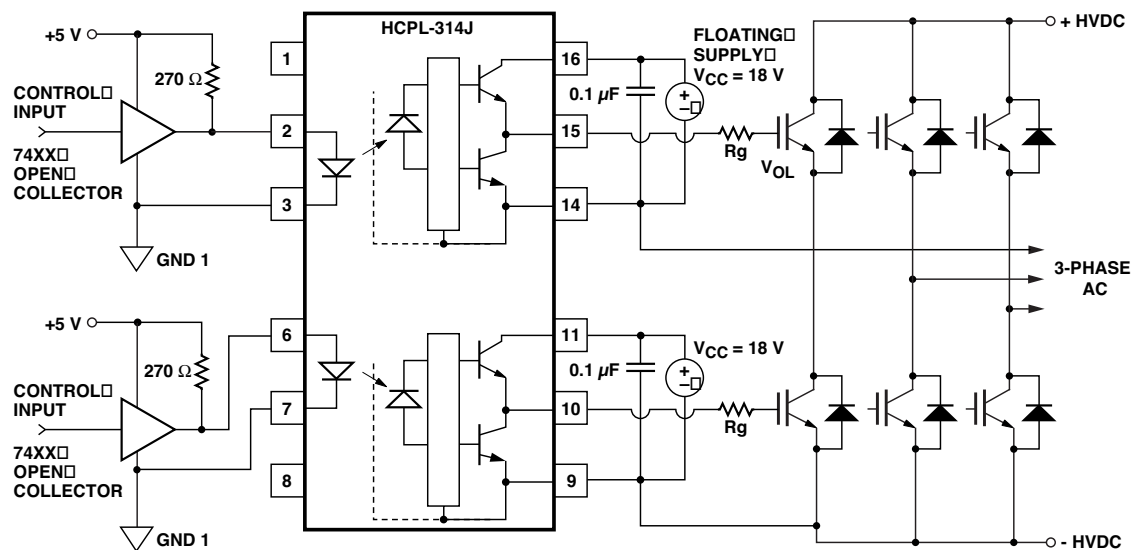
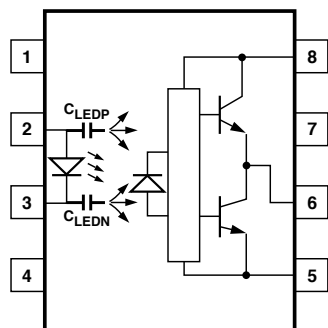
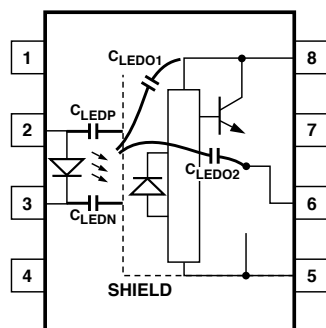
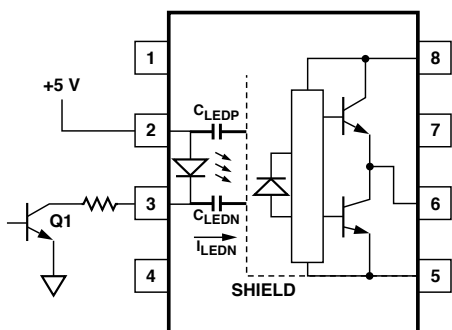

Figure 19. Recommended LED Drive and Application Circuit for HCPL-314J.
Figure 21. Optocoupler Input to Output Capacitance Model for Unshielded Optocouplers.
Figure 22. Optocoupler Input to Output Capacitance Model for Shielded Optocouplers.
Figure 24. Not Recommended Open Collector Drive Circuit.
To keep the IGBT firmly off, the HCPL-314J has a very low maximum V_{OL} specification of 1.0 V. Minimizing R_g and the lead inductance from the HCPL-314J to the IGBT gate and emitter (possibly by mounting the HCPL-314J on a small PC board directly above the IGBT) can eliminate the need for negative IGBT gate drive in many applications as shown in Figure 19. Care should be taken with such a PC board design to avoid routing the IGBT collector or emitter traces close to the HCPL-314J input as this can result in unwanted coupling of transient signals into
the input of HCPL-314J and degrade performance. (If the IGBT drain must be routed near the HCPL-314J input, then the LED should be reverse biased when in the off state, to prevent the transient signals coupled from the IGBT drain from turning on the HCPL-314J.) An external clamp diode may be connected between pins 14 & 15 and pins 9 & 10 (as shown in Figure 19) for the protection of HCPL-314J in the case of IGBTs switching inductive load.
Step 1: Calculate R_g minimum from the I_{OL} peak specification. The IGBT and R_g in Figure 24 can be analyzed as a simple RC circuit with a voltage supplied by the HCPL-314J.
where $K_{ICC} \cdot Q_g \cdot f$ is the increase in I_{CC} due to switching and K_{ICC} is a constant of 0.001 mA/(nC*kHz). For the circuit in Figure 19 with I_F (worst case) = 10 mA, $R_g = 32\ \Omega$, Max Duty Cycle = 80%, $Q_g = 100\text{ nC}$, $f = 20\text{ kHz}$ and $T_{AMAX} = 85^\circ\text{C}$:
Without a detector shield, the dominant cause of optocoupler CMR failure is capacitive coupling from the input side of the optocoupler, through the package, to the detector IC as shown in Figure 21. The HCPL-314J improves CMR performance by using a detector IC with an optically transparent Faraday shield, which diverts the capacitively coupled current away from the sensitive IC circuitry. However, this shield does not eliminate the capacitive coupling between the LED and optocoupler pins 5-8 as shown in Figure 22. This capacitive coupling causes perturbations in the LED current during common mode transients and becomes the major source of CMR failures for a shielded optocoupler. The main design objective of a high CMR LED drive circuit becomes keeping the LED in the proper state (on or off) during common mode transients. For example, the recommended application circuit (Figure 19), can achieve 10 kV/μs CMR while minimizing component complexity.
The open collector drive circuit, shown in Figure 24, can not keep the LED off during a $+dV_{CM}/dt$ transient, since all the current flowing through C_{LEDN} must be supplied by the LED, and it is not recommended for applications requiring ultra high CMR₁ performance. The alternative drive circuit which like the recommended application circuit (Figure 19), does achieve ultra high CMR performance by shunting the LED in the off state.